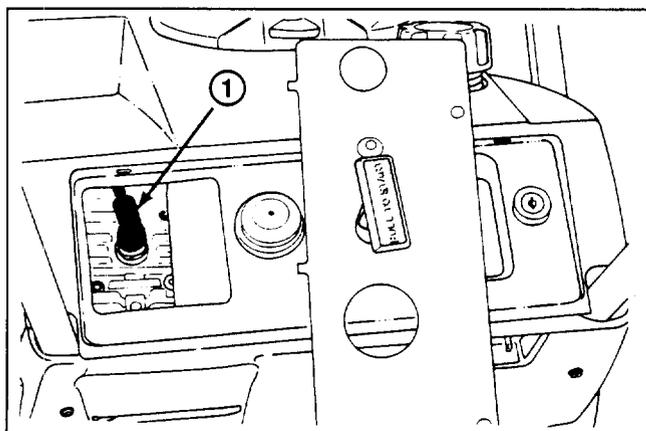

Figure 16
2. REMOVE SPARK PLUG (Fig. 16) – Pull wire off spark plug and remove plug. Examine the plug and replace if cracked, fouled, or dirty. **DO NOT SAND-BLAST, SCRAPE, OR CLEAN SPARK PLUG BECAUSE DIRT MAY RELEASE AND FALL INTO CYLINDER CAUSING ENGINE DAMAGE.**